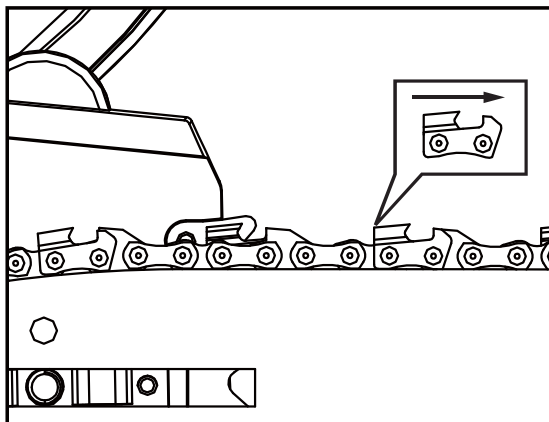

Figure 9 - Correct teeth direction
3. Wearing protective gloves, wrap the saw chain around the guide bar, making sure that the teeth are aimed in the direction of rotation (Figure 9). The chain should be properly set in the slot running along the entire outside edge of the guide bar.